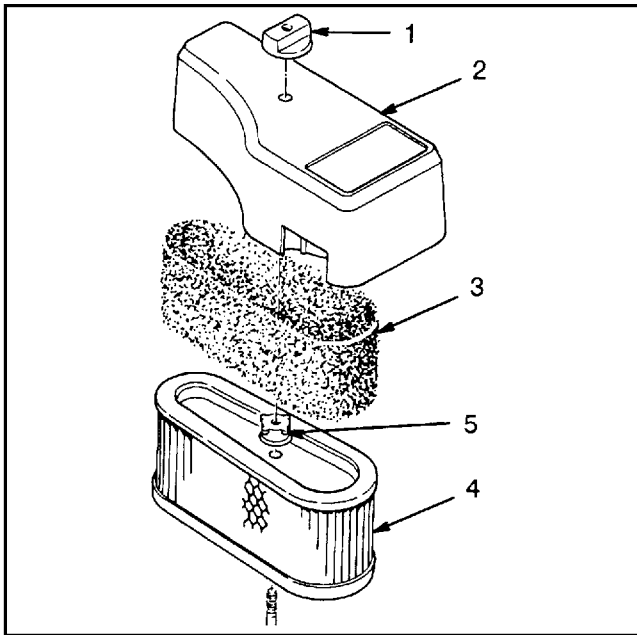

Figure 15
2. Remove the knob and air cleaner cover (Fig. 15).
3. Every 25 hours the foam pre-cleaner should be cleaned (Fig. 15). Remove foam pre-cleaner by sliding it off the paper cartridge (Fig. 15).
4. The paper air cleaner cartridge should be replaced every 100 hours. Remove one nut from the top of the paper cartridge (Fig. 15).